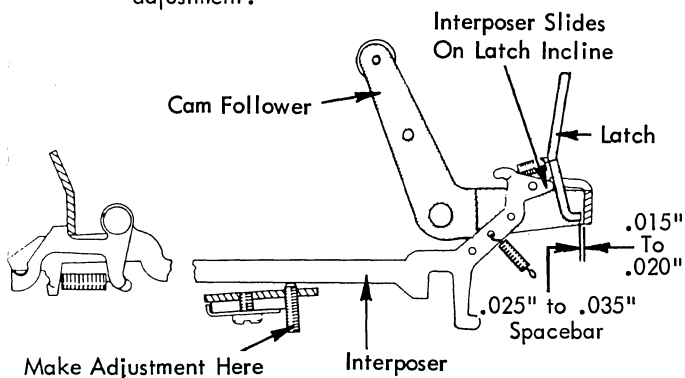

FIGURE 116. Interposer Adjusting Screw
4. **Interposer Adjusting Screws** - Adjust the interposer adjusting screws so that a front to rear clearance of .015" to .020" exists between all the operational latches and their respective cam followers, with the exception of the spacebar latch. The spacebar latch should have a clearance of .025" to .035" (Fig. 116).
NOTE: The operational interposer springs should be placed in the center hole at the rear of the interposer (Fig. 116).